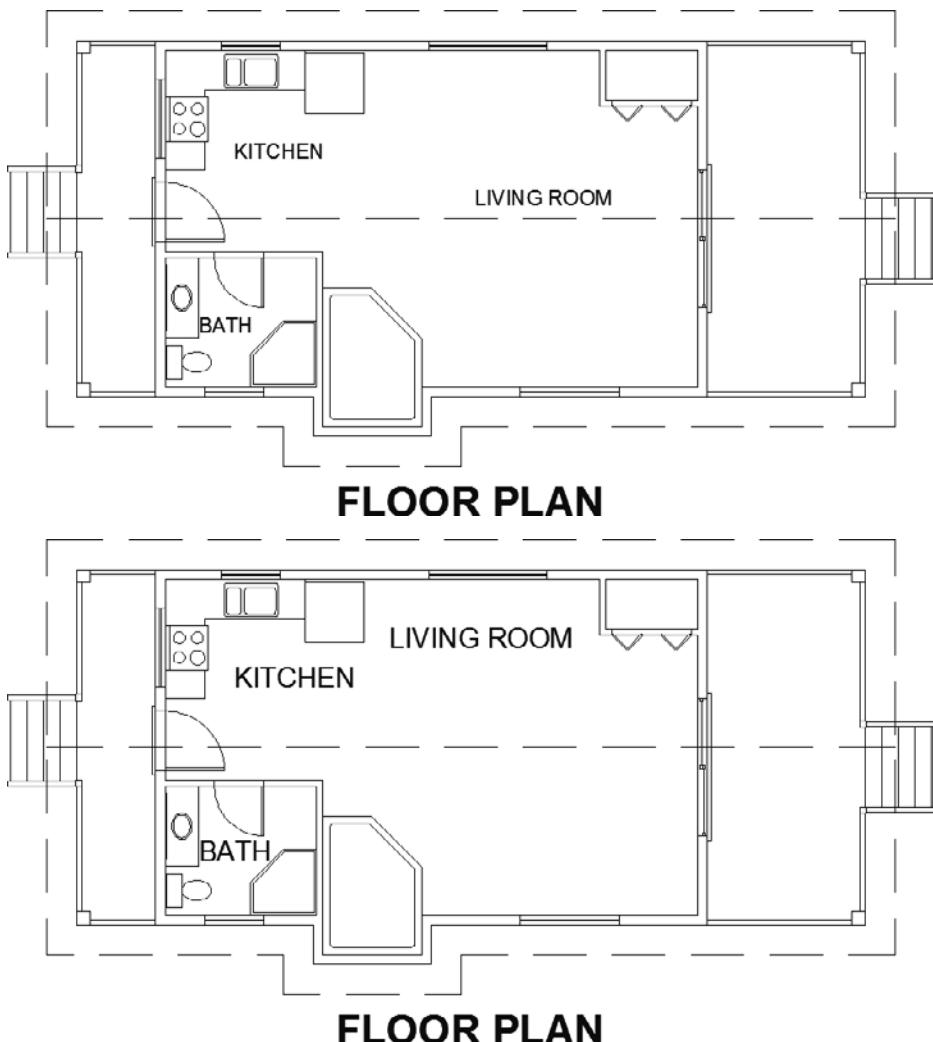

FIGURE 8.20 Room label locations at an annotation scale of $\frac{1}{4}'' = 1'-0''$ (top) and $\frac{3}{16}'' = 1'-0''$ (bottom)
6. Click the grip to activate it. The LIVING ROOM text is attached to the cursor and moves with it (see the left of Figure 8.20).
The text size for each of the room labels gets larger, and the location for the LIVING ROOM text reverts to its original location, as shown in Figure 8.20 (right).